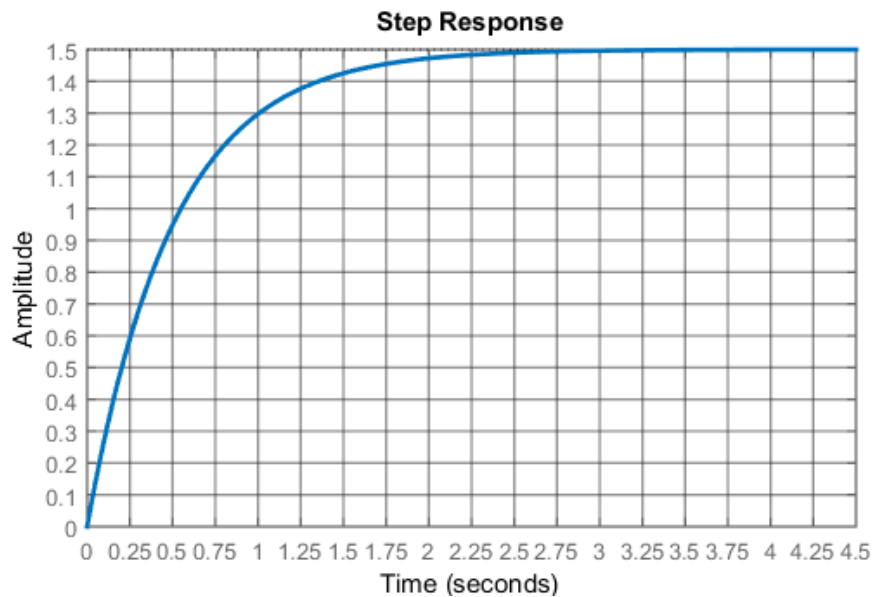

Figure 1 – Step Response of unknown system
2. Determine the transfer function from the step response graph in Figure 1.